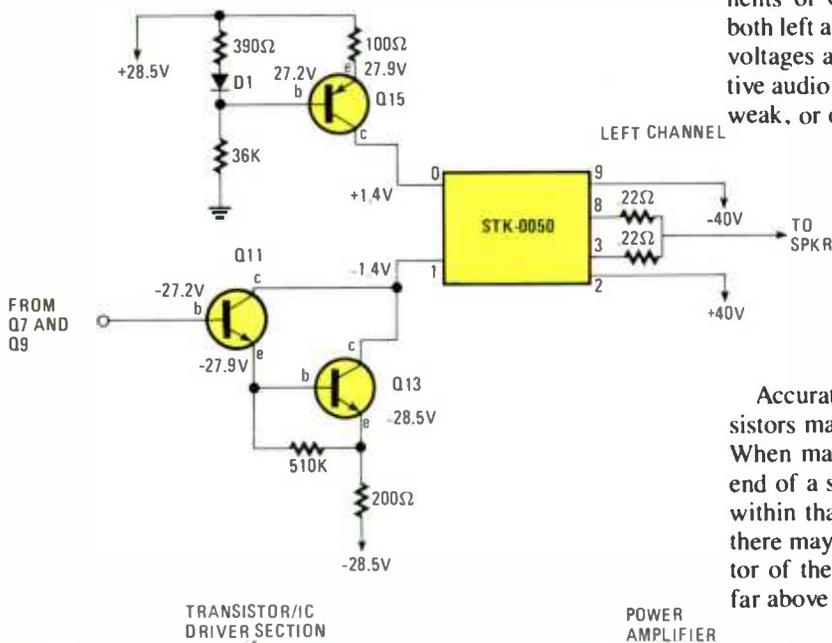

Fig. 3—High B positive and negative voltages are found in high-powered amplifiers. Three or four voltage levels may be fed to high-powered amplifier circuits.
Most audio transistors and IC's are contained in directly-coupled (DC) circuits. The collector or emitter terminals of a driver transistor may be tied directly to the the output device—another transistor or an IC, as shown in Fig. 3. With a leaky or open transistor, the voltages may be incorrect on the transistors or IC's in that audio channel.